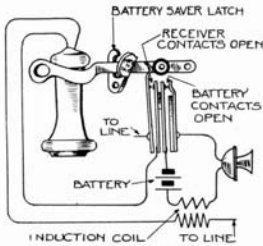

Fig. 11—Correct Spring Adjustment
(e) Now replace the old hookswitch lever in the new hookswitch assembly and see that the contact springs are adjusted to operate as shown in Figures 11, 12 and 13, which is as follows:
- 1—*Receiver On Hook*, lever down, all contacts are opened, as shown in Figure 11.